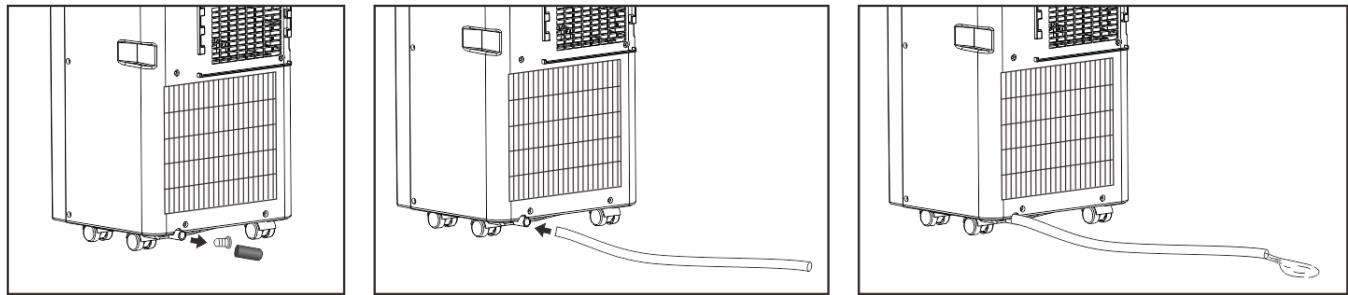

Fig.3
- If water splash motor is damaged, continuous drainage can be used. To connect the drain hose to the bottom drain hole (Fig.3), the unit can also work well.